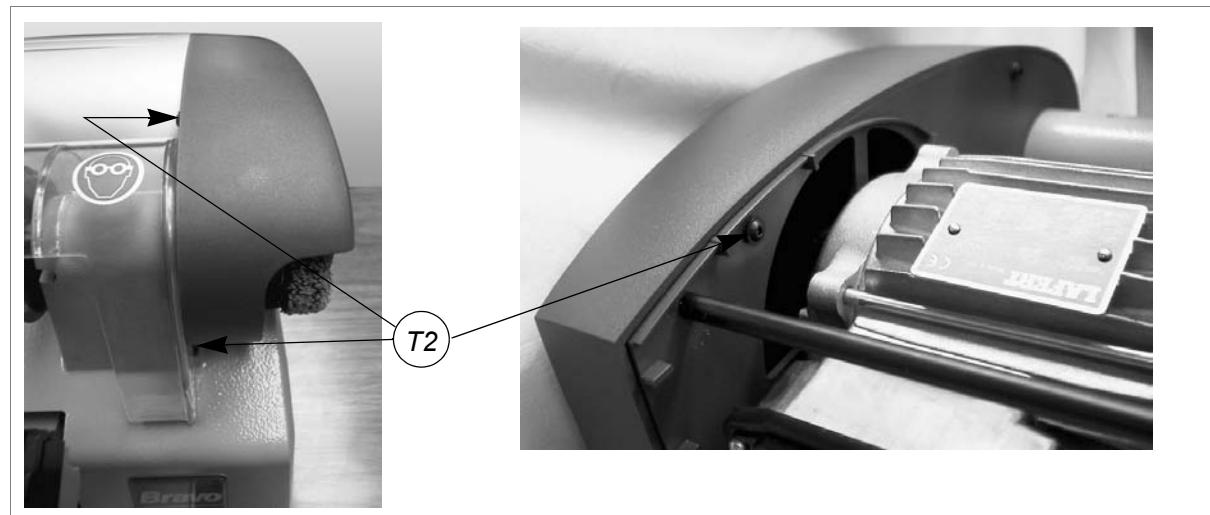

Fig. 40
- 4) Loosen the 3 screws (T2) (fig.40) on the belt cover and remove (pull out towards the front of the machine).
- 4) Loosen the 3 screws (T2) (fig. 40, page 28) on the belt cover and remove (pull towards the front of the machine).
- 6) Replace the belt cover and fix with the 3 screws (T2) (fig. 40, page 28).
- 5) Loosen the 3 screws (T2) (fig. 40, page 28) on the belt cover and remove (pull towards the front of the machine).
- 18) Replace the belt cover and fix with the 3 screws (T2) (fig. 40, page 28).